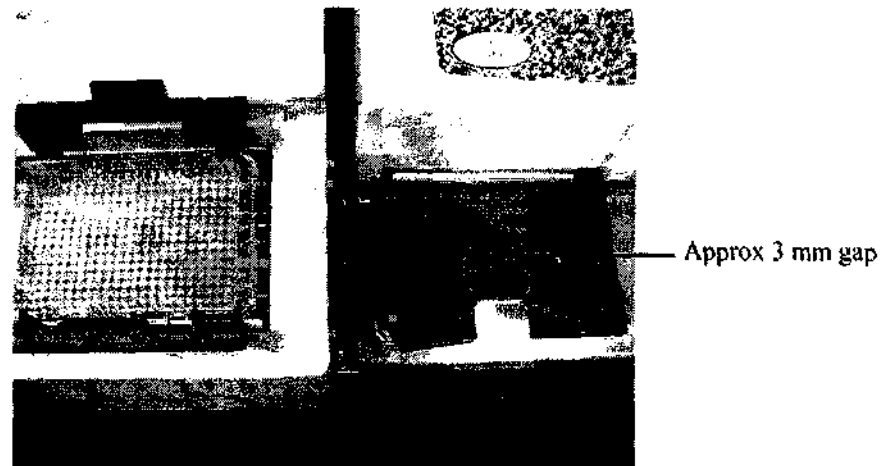

Figure 8 Alignment of extension to carriage/base plate
11. The **END** position for the **QFill2** carriage should be preset by Genetix so that it aligns with the manifold. The **START** position is preset by Genetix so that the gap between the base plate and the **QStacker** extension is about 3 mm (Figure 8).